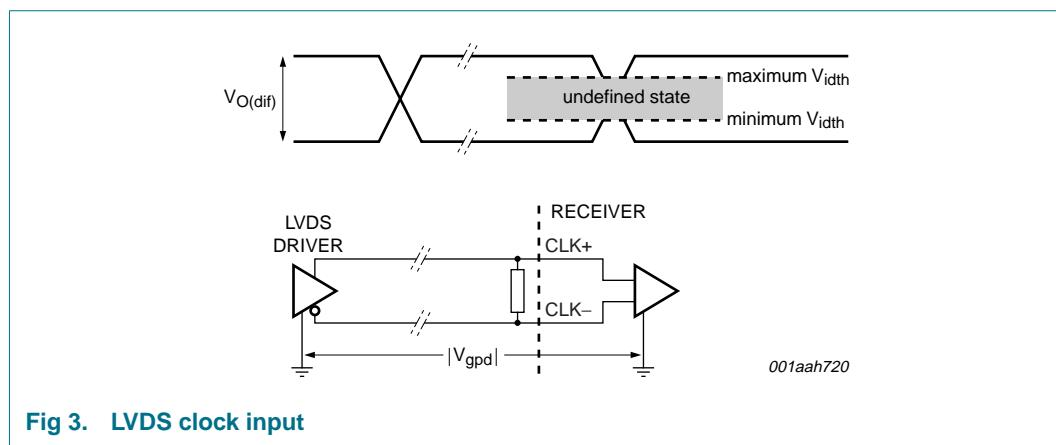

Fig 3. LVDS clock input
- LVDS mode: CLK+ and CLK- inputs are at differential LVDS levels. An external resistor of between 80 Ω and 120 Ω is required; see Figure 3.